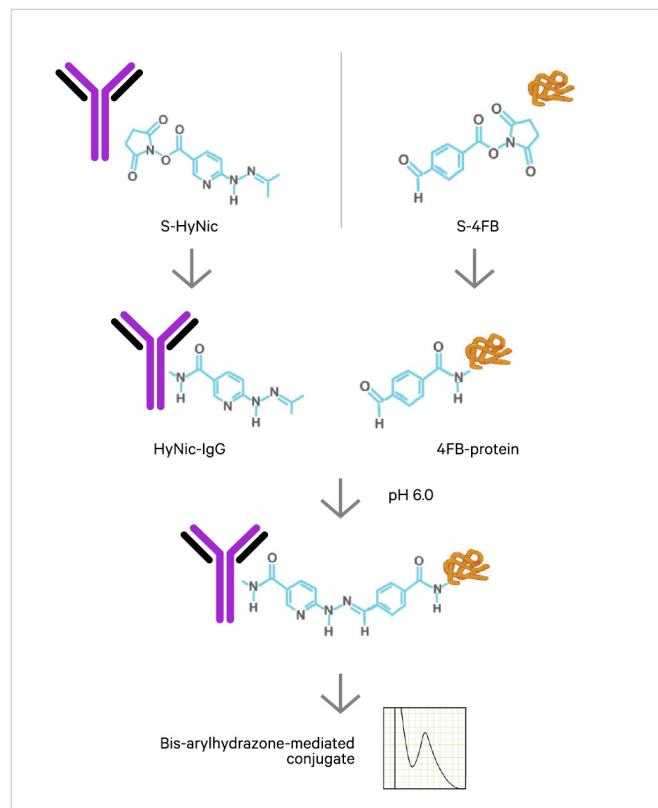

Figure 1. SoluLINK bioconjugation workflow.
**Description** The HRP-Antibody All-In-One Conjugation Kit contains all the necessary reagents and components to produce two HRP-antibody conjugates. Based on **SoluLINK® bioconjugation technology**, it allows any purified antibody (free of carrier protein) to be conjugated and purified within 5 h, involving just 1 h of hands-on time. First, the user-supplied antibody is modified with S-HyNic, then the HyNic is conjugated to pre-activated 4FB-HRP. Next, a rapid spin filter is used to remove any residual antibody or HRP, resulting in 50–70 µg of high purity HRP-antibody conjugate that is ready for use (Figure 1).